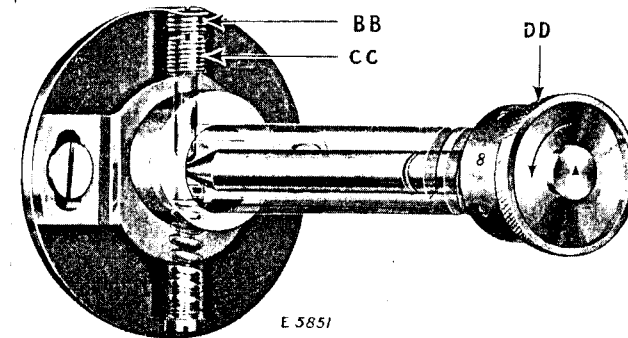

Fig. 19. "X-Ray" View of Feed Driving Eccentric
The figures on the feed regulating spindle head (DD, Fig. 19), showing through the notch in the balance wheel, indicate the
number of stitches to the inch which should be made. If more or less stitches are made, adjust as follows: Remove screw (BB, Fig. 19), set the indicator at 8 and the feed dog at its highest point, a full tooth showing above the throat plate, then adjust screw (CC, Fig. 19) until eight stitches to the inch is the result and replace check screw (BB) firmly.
To Set the Feed Regulator so that a Stitch Longer Than the One Desired Cannot be Made. Turn the spindle head (DD, Fig. 19) as far as possible in the direction indicated by the arrow in Fig. 19; remove check screw (BB) and adjust screw